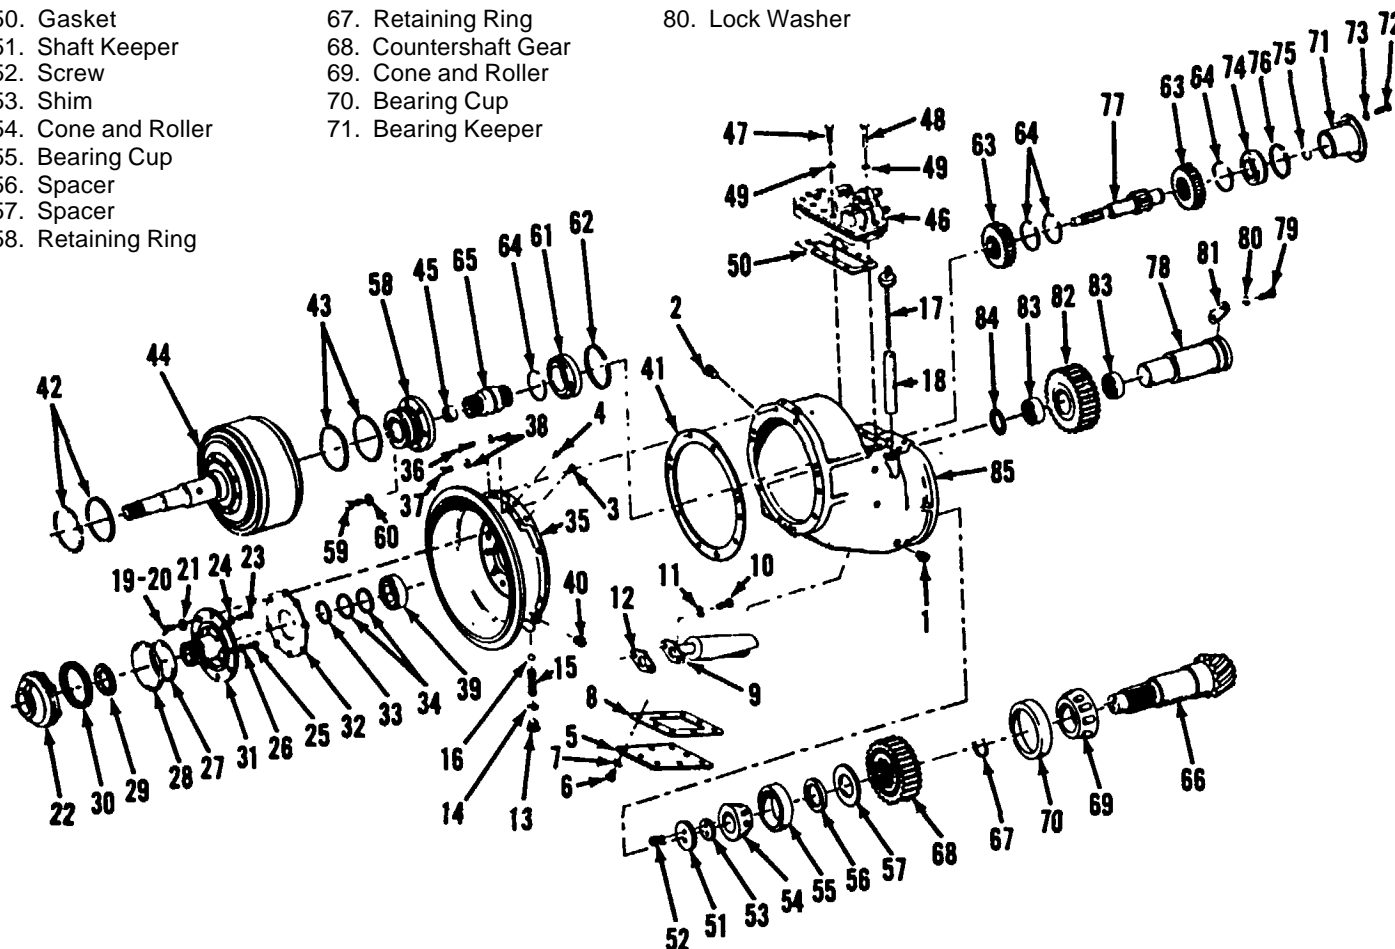

Figure 4-14. Mechanical Transmission Complete, Exploded View
1. Remove eight screws and washers (6 and 7, figure 4-14), access plate (5) and gasket (8). Remove two screws (10), washers (11) and remove strainer element (9) and gasket (12).
2. Remove relief valve components (items 13, 14, 15, and 16), gage (17) and tube (18).
3. Remove and disassemble transmission pump (items 19 through 34).
4. Remove five screws (36), three screws (37) and eight washers (38), and take transmission case front half (35) and gasket (41) from case rear half (85). Remove bearing (39) from case front half.
5. Remove clutch (44) and seals (42 and 43) from case. Remove screws (47 and 48), washers (49), transmission valve assembly (46) and gasket (50) from case rear half.